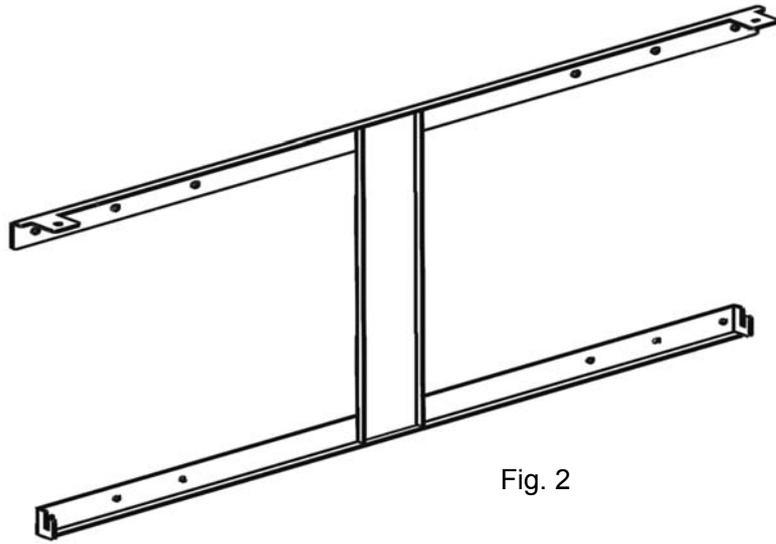

Fig. 2
- Choose a solid and plain wall and then put the mounting bracket on the position where you want to install the heater. Mark the 4 holes with a pen through the holes on the mounting bracket. (Fig. 2) – Ensure that the bracket is level using a spirit level or similar.